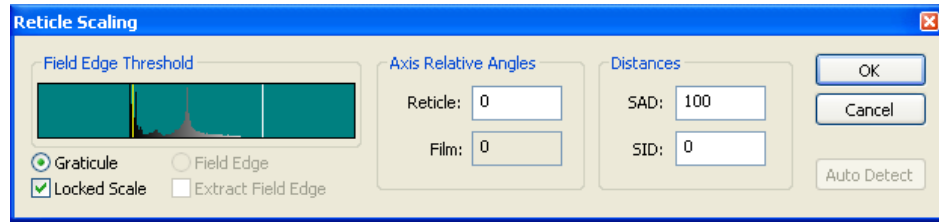

Figure 28: Reticle Scaling Dialog Box
- Click  to open the Reticle Scaling dialog box, shown in Figure 28.